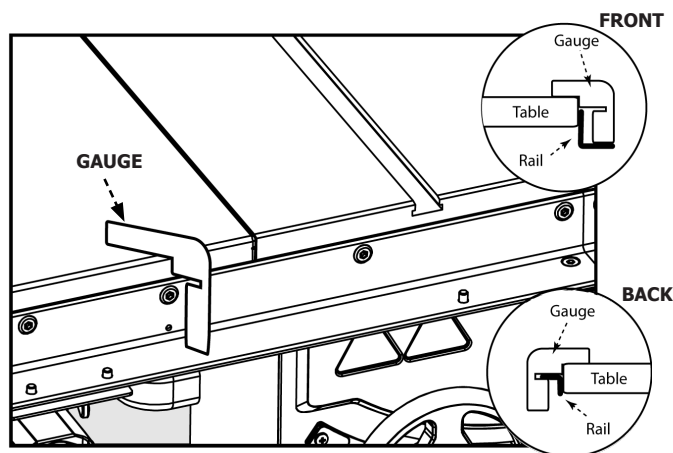

FIGURE 5
3. Use supplied rail alignment gauge to ensure the rail is the proper distance from the top of the table at each side of the cast iron table. (Fig. 5)